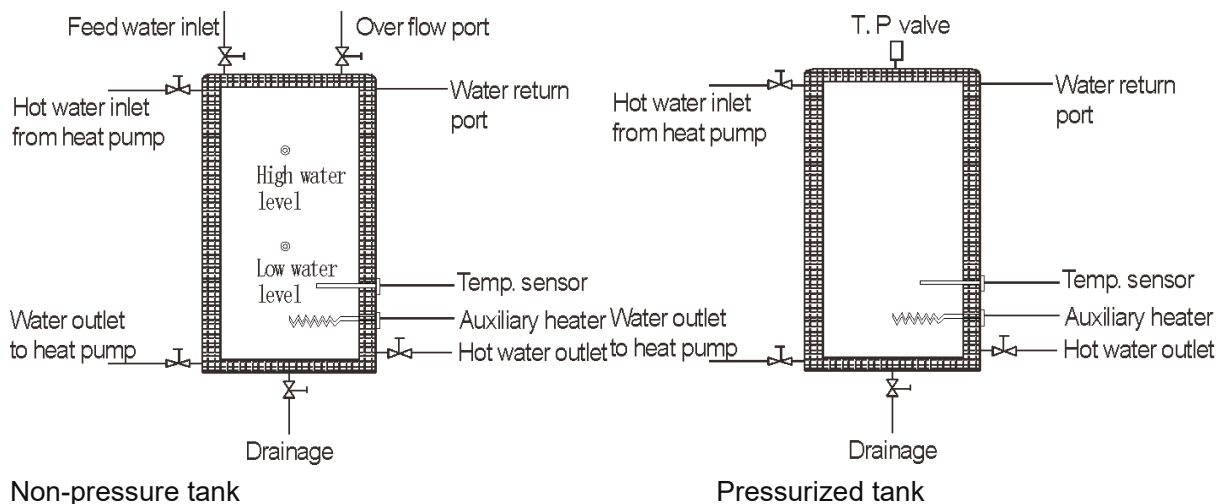

Figure 10
- The heat pump should be used with a hot water storage tank, below the tank structure for reference Figure 10
- The flow switch must be installed on a straight pipeline, there must be more than five times the length of the pipe diameter at its two sides. And, the direction of fluid must follow the arrow on the controller. The terminal block should be located at the position where is easy operation, (Figure 10)